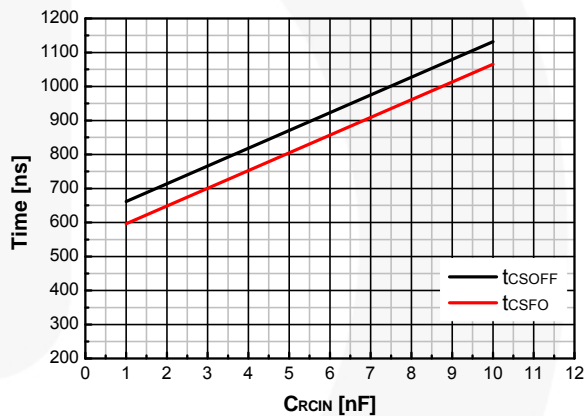

**Figure 42. RCIN and Fault-Clear Waveform Definition**
Figure 42 shows the waveform definitions of RCIN, FO, and the low-side driver; which uses a soft turn-off method when an under-voltage condition of the low-side gate driver supply voltage ( $V_{DD}$ ) or the current-sense pin (CS) recognizes a fault. If a fault condition occurs, the FO Pin is internally pulled to COM and all outputs (HO1,2,3 and LO1,2,3) of the gate driver are turned off. Low-side outputs decline linearly by the internal sink current source ( $I_{SOFT}=40\text{mA}$ ) for soft turn-off, as shown in Figure 42.